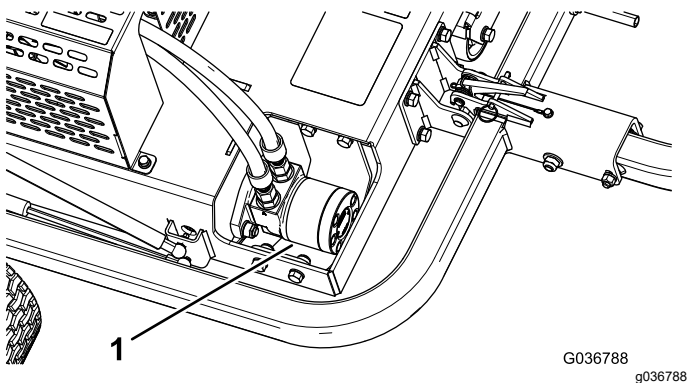

**Figure 40**
2. Clean dirt and debris from the rollers as needed by spraying water through the holes in the roller housings (Figure 40).